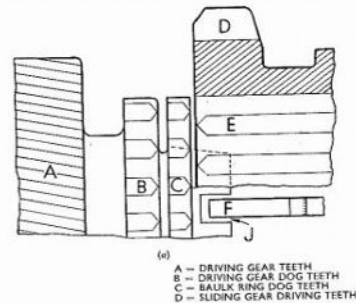

Fig. E.3. Operational diagram of the synchronesh mechanism
In selecting second gear, the change speed lever moves the first and second speed selector fork forward and through neutral, until the spring loaded ball locates in the front groove of the selector shaft. The locking lever and guide remains in the same position and continues to lock the reverse and the third and top selector forks in the neutral position. Simultaneously, the first speed sliding gear is moved forward out of engagement with the layshaft first speed gear, and when the neutral position of the synchronising hub is attained, the protrusions on the spring loaded shifting plates in the hub engage the detent grooves in the sliding gear. The sliding gear continues to move forward but before second gear is actually engaged, the speeds of the mating gears are synchronised as follows (see Fig. E.3).
Continued movement of the sliding gear through neutral, forces the three shifting plates (F) forward, bringing the baulk ring into engagement with its mating cone which is integral with the second speed gear. The gear (A) will be rotating at a speed considerably different from that of the hub and therefore the baulk ring will be dragged round by friction to the extent permitted by the clearance (J). By referring to Fig. E.3(b), it will be seen that the baulk ring teeth (C) have now moved into the path of the sliding gear teeth (E). Their chamfered faces abut and restrict further movement until synchronisation occurs.